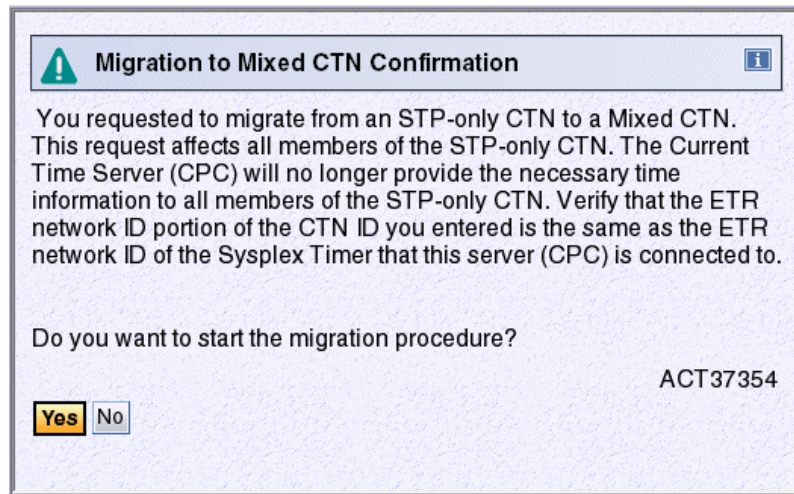

Figure 15-12 Message ACT37354 - Migration to Mixed CTN confirmation
4. Click **Apply**. This displays the Migration to Mixed CTN Confirmation, message ACT37354 (Figure 15-12).